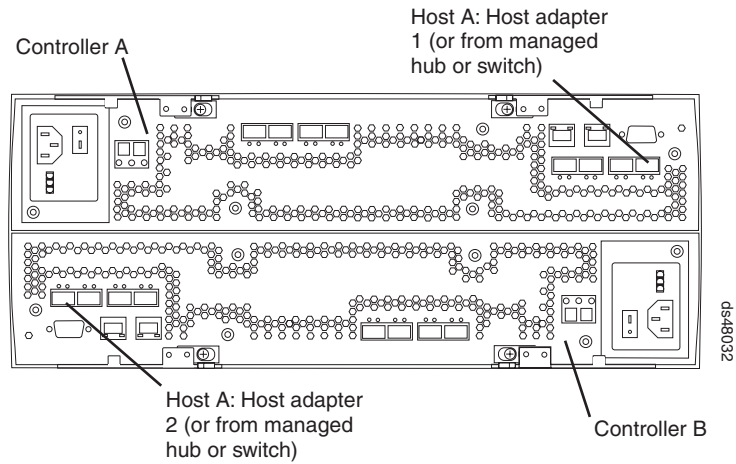

Figure 62. Location of host cables on RAID controllers
2. Connect the fibre channel cables from the SFP modules in the DS4800 RAID controller host ports to either the SFP modules in the fibre channel switch or the SFP modules of the host bus adapters. Figure 62 shows the location on the RAID controllers where the host-system cables connect.
Table 29. Description of Figure 62